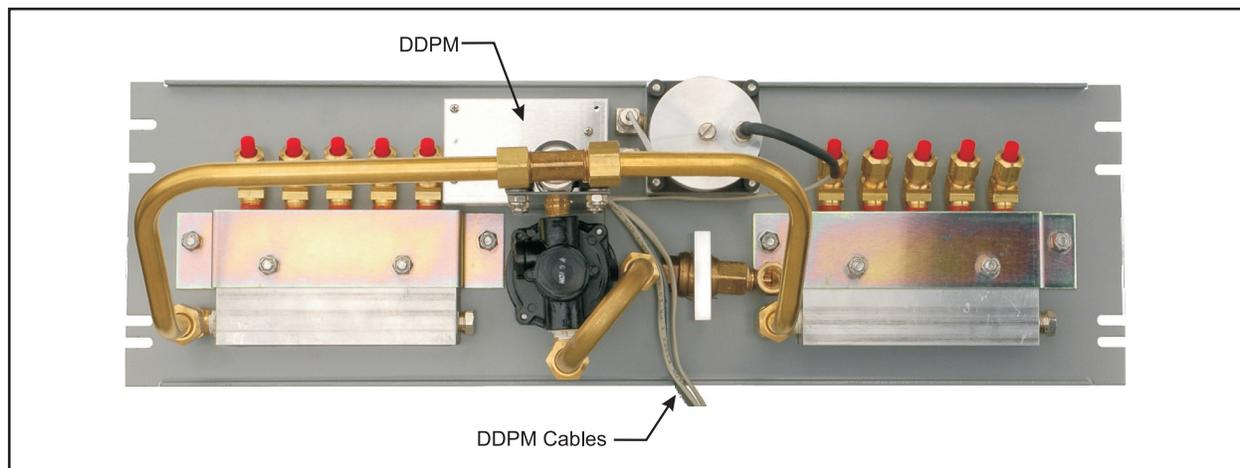

Figure 2: DDPM Component Location
On the back side of the panel, emerging from the lower right corner of the sealed DDPM component, are four conductor cables (Figure 2). The dark gray one contains the power conductors; the other three are identified by one-inch sections of color-coded heat shrink positioned approximately ¼" out from the box. The yellow heat shrink identifies the Monitor Cable, blue is used to designate the Alarm Cable, and black identifies the Transducer Cable. The four DDPM cables serve the following functions:
- 4) Locate the DDPM module on the back side of the panel, and identify the four cables emerging from the lower right corner of the module. Figure 2 shows the back of a Digital Distribution Panel. As you can see, one of the cables (the one with the black heat shrink) is pre-connected to the wire cover of the high resolution transducer. The three coiled 15-foot cables provide the electrical connections to the incoming power and to the 289H/uM260 monitoring equipment.